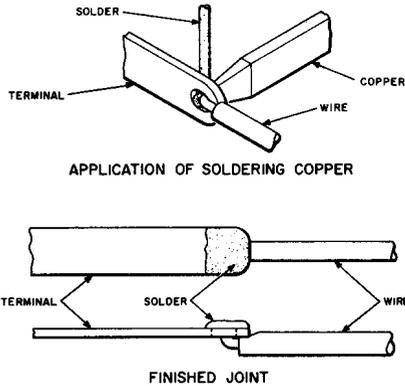

FIGURE 10. Soldering Wire to Perforated Terminals
8.01 Perforated terminals are those on which the wire is brought through the hole, such as on equipment units, jacks, and lamp sockets. The method of soldering is the same as for notched terminals outlined in paragraph 7. Sufficient solder should be used to fill the hole. This ensures that a good electrical and mechanical connection has been made. See Figure 10.